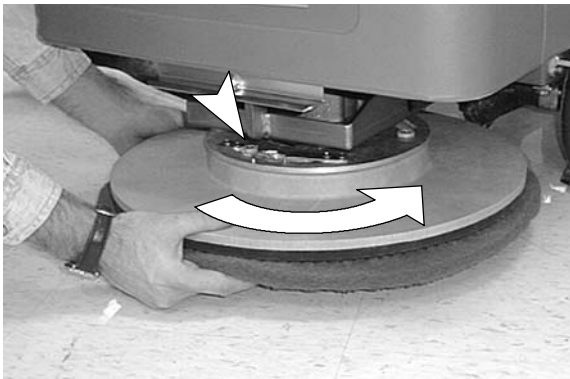

FIG. 9
7. Align pad driver mounting studs with slots in motor hub. Give the driver a quick turn toward the motor hub spring clip. Be certain that the spring clip locks into one of the studs before operating machine (Figure 9).